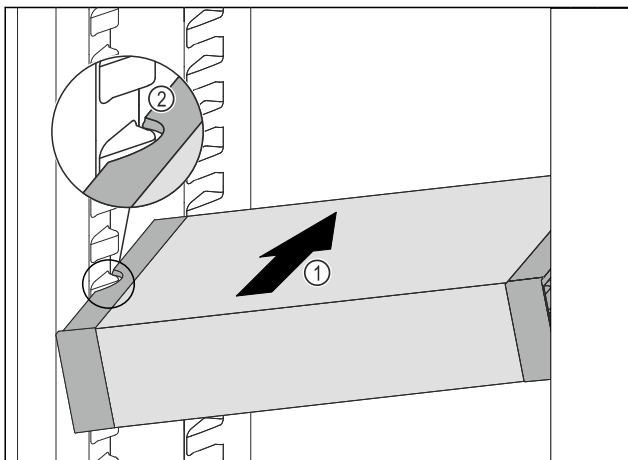

Fig. 92
- ▶ Insert the VarioSafe into the fridge section at an angle *Fig. 92 (1)* until the recesses in the side *Fig. 92 (2)* of the VarioSafe are at the level of the support rib in the fridge section.